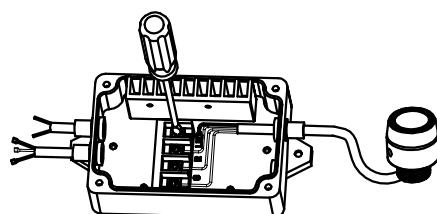
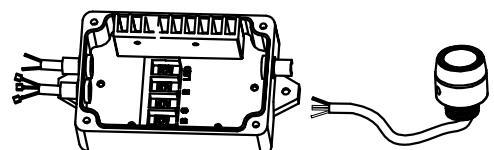

FIG 2
FIG 3
2. Loosen the screw fixing the wire of the lights in the controller box (Ref. FIG 2), then remove the wire of the light from the controller box. (Ref. FIG 3).